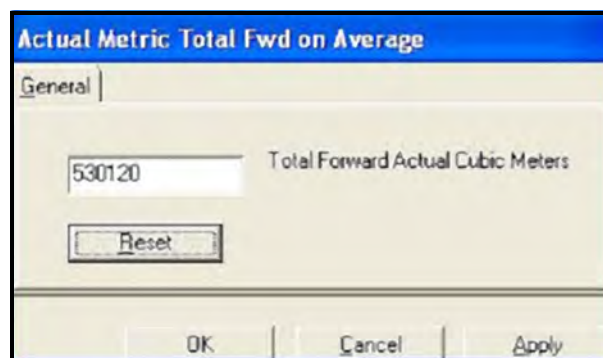

Figure 3-27: Actual Metric Total Fwd on Average
3. Click on Properties. The current total will be displayed (see Figure 3-27 below).